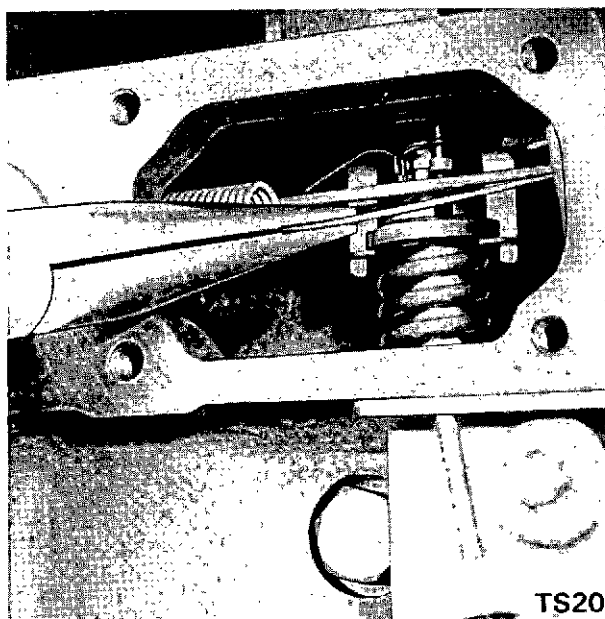

Fig. 23 Removing Speeder Spring with Fuel Pump Door Removed.
- (e) Disconnect governor link and pump inter-connecting link at pumps (it will assist access if speeder spring is first disconnected from spindle on right hand side) (Fig. 23). Set operating lever on pump to central position.
- (b) Disconnect speeder spring from spindle.(Fig. 23).